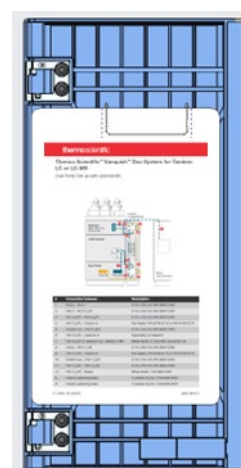

Figure 2: Flow scheme in sampler door
2. Open the **Chromeleon Instrument Configuration Manager** and create a new **Instrument**. For Thermo Xcalibur/SII for Xcalibur installations open **Xcalibur Instrument Configuration**, select SII for Xcalibur and configure device, press **Configure / Configure Device** and create a new Instrument (Figure 2).